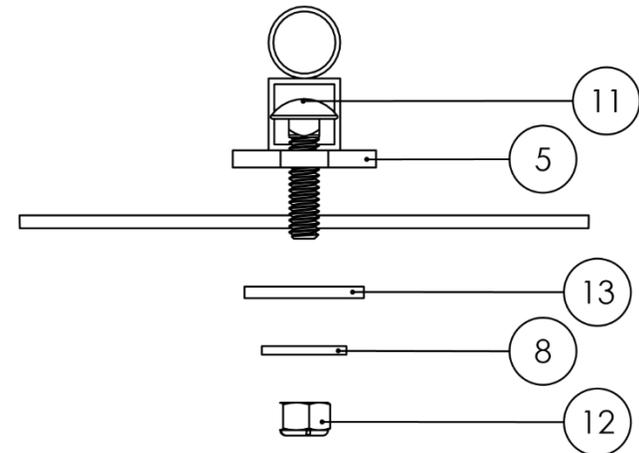

Figure 8
8. **Secure the rack onto the canopy.** Secure the rack by following the bolt assembly as shown in Figure 8. In the order from top to bottom, each Foot (Item No. 5) requires (2) 5/16 – 18 x 1.25" Carriage Bolt (Item No. 11), (2) Rubber Washers (Item No. 13), (2) Metal Washers (Item No. 8) and (2) Nylon Locknuts (Item No 12).